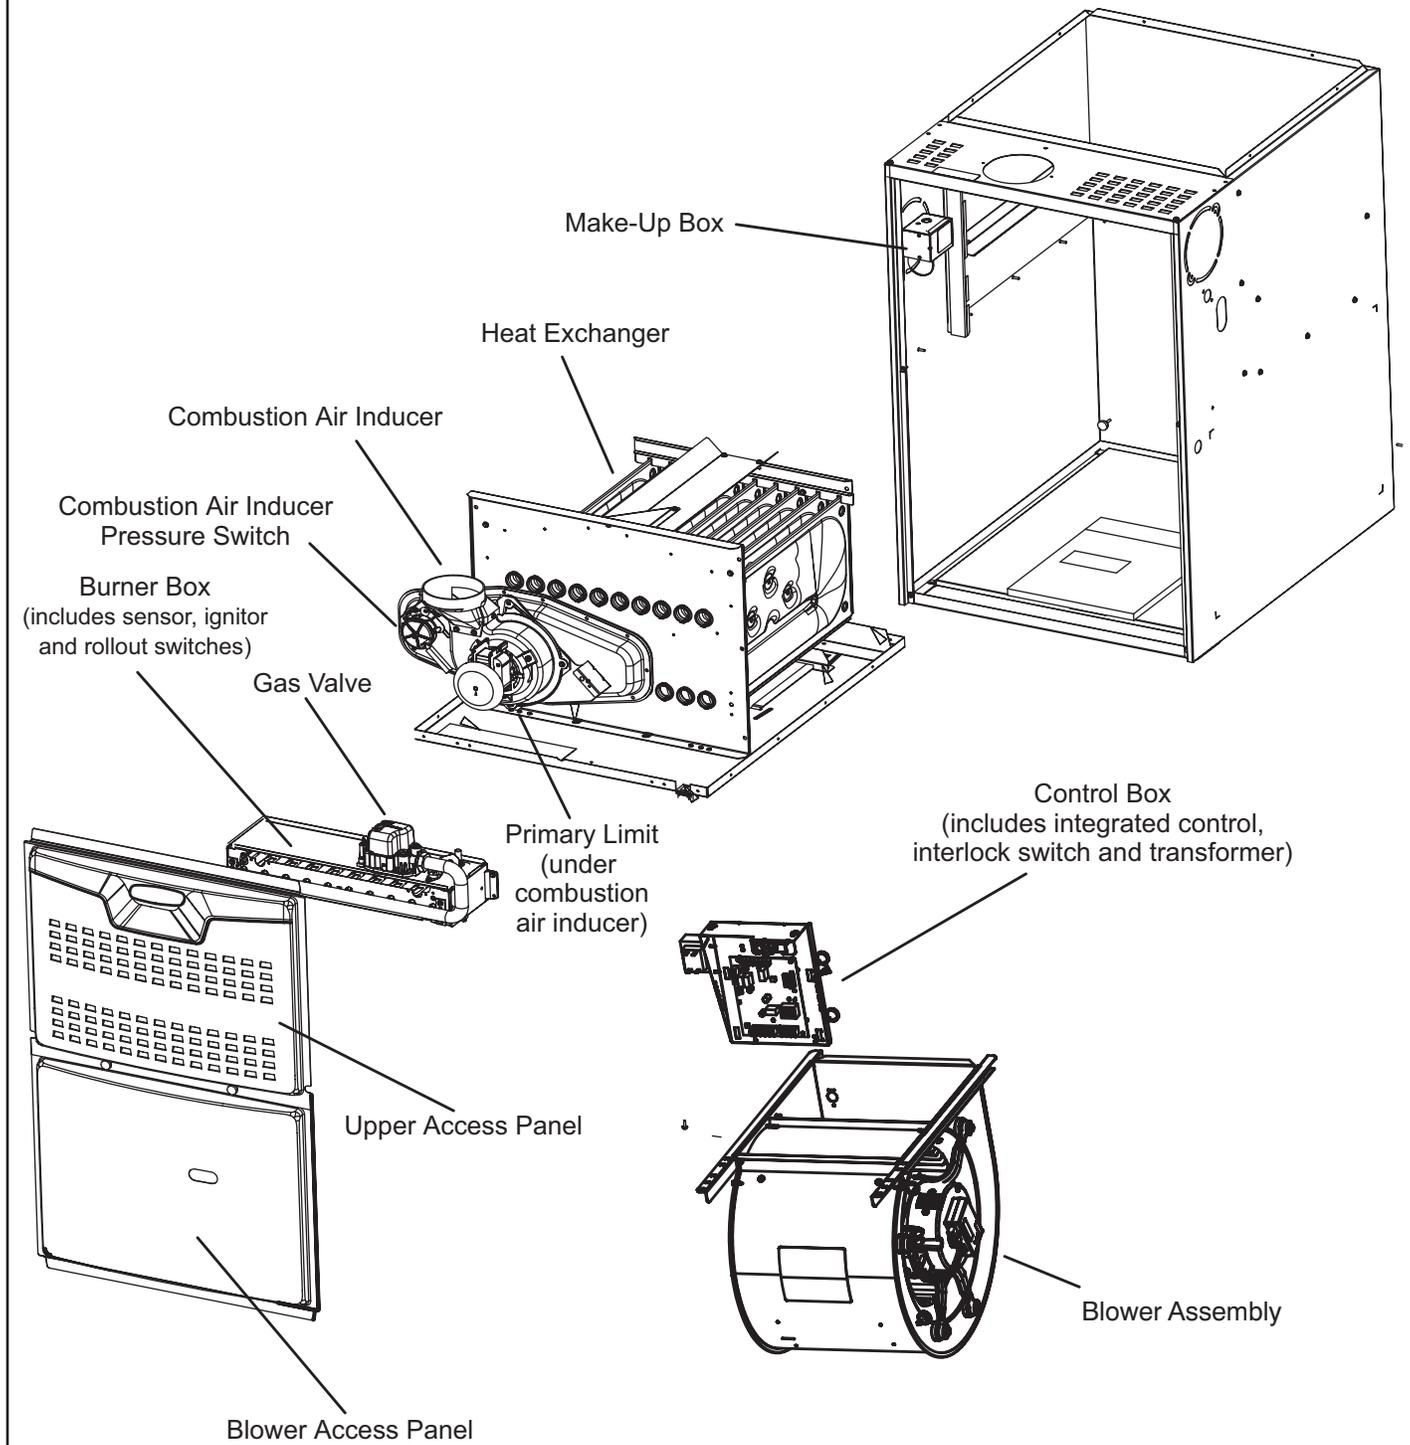
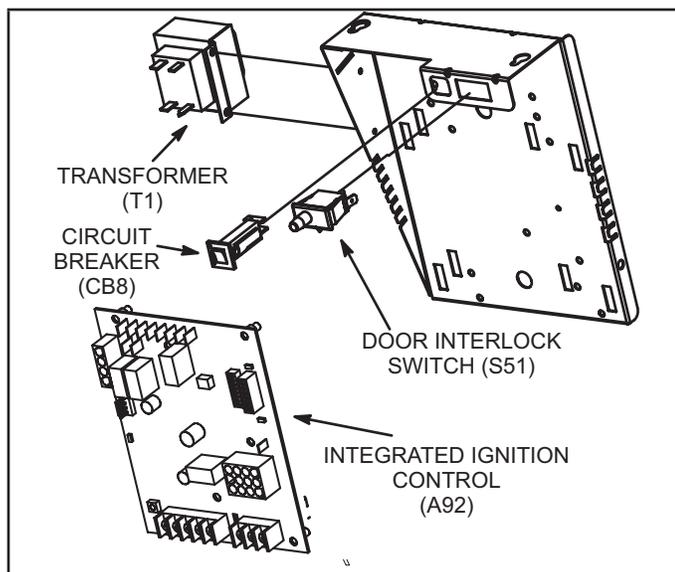
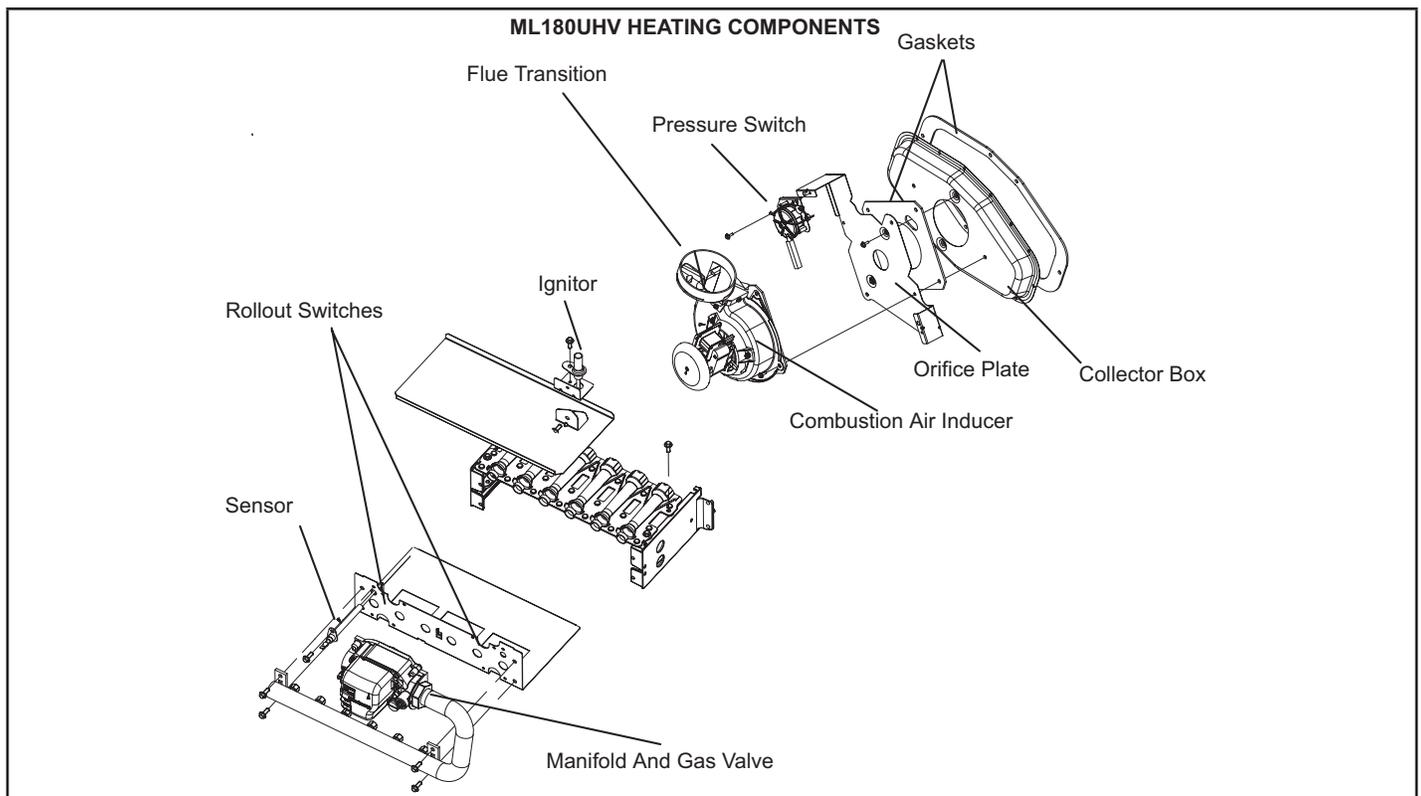

FIGURE 1
FIGURE 2
FIGURE 5
ML180UHV unit components are shown in FIGURE 1. The gas valve, combustion air inducer and burners can be accessed by removing the upper access panel. Electrical components are in the control box (FIGURE 2) found in the blower section.
The hot surface ignition control system consisting of an integrated control (FIGURE 2 with control terminal designations in TABLE 1, TABLE 2 and TABLE 3, sensor and ignitor (FIGURE 5). The integrated control and ignitor work in combination to ensure furnace ignition and ignitor durability. The integrated control, controls all major furnace operations. The integrated control also features a RED LED for troubleshooting and two accessory terminals rated at (1) one amp. See TABLE 14 for troubleshooting diagnostic codes. The nitride ignitor is made from a non-porous, high strength proprietary ceramic material that provides long life and trouble free maintenance.
5. Flame Rollout Switches (FIGURE 5)
7. Flame Sensor (FIGURE 5)
8. Gas Valve (FIGURE 5)
10. Ignitor (FIGURE 5)